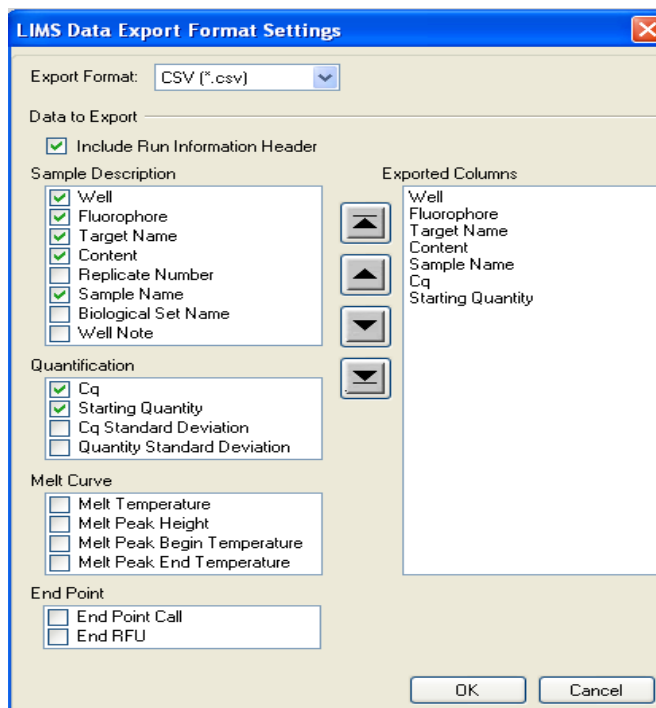

Figure 102. LIMS Data Export Format Settings window.
- Click the **Data Export Settings** button to specify the file format to be used for the exported data and which information fields will be exported (Figure 102).